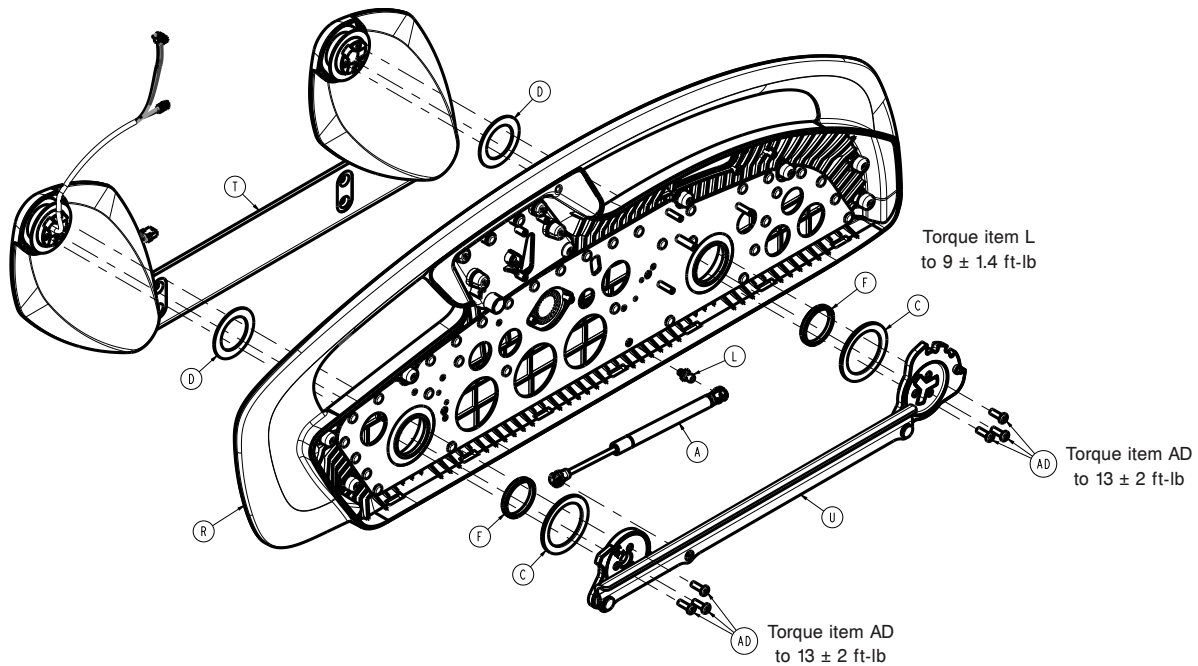

Figure 59 – Replacing the siderail hoop
22. Using a ratchet and a T30 Torx driver, remove the six screws (AD) that secure the timing link cams to the siderail arms (Figure 59).
23. Using a small slotted screwdriver, unclip the gas cylinder (A) from the timing link assembly (U) and the siderail hoop frame (R) to remove the gas cylinder (Figure 59).